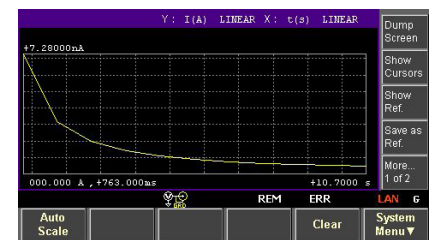

Figure 9. Time sweep leakage current measurement by Graph View.
Figure 9 shows an example of a user-defined sweep measurement displayed using the Graph view. The test sequence displayed in the Graph view is as follows: (1) application of the test voltage, (2) measurement of the leakage current over the specified interval, (3) return of the test voltage to zero volts after the final measurement and (4) the graphical display of the results in real time.
Note that the example shown in Figure 9 shows a 0.1 μF capacitor without a series resistor. The series resistor is not required and only needs to be used when noise or other measurement issues are causing problems.